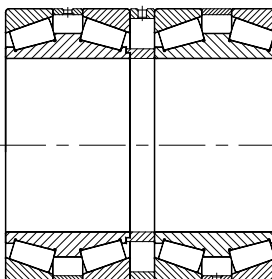

Fig. 2.15
**Four row tapered roller bearings** (fig. 2.15) also belong to the supplementary product range.